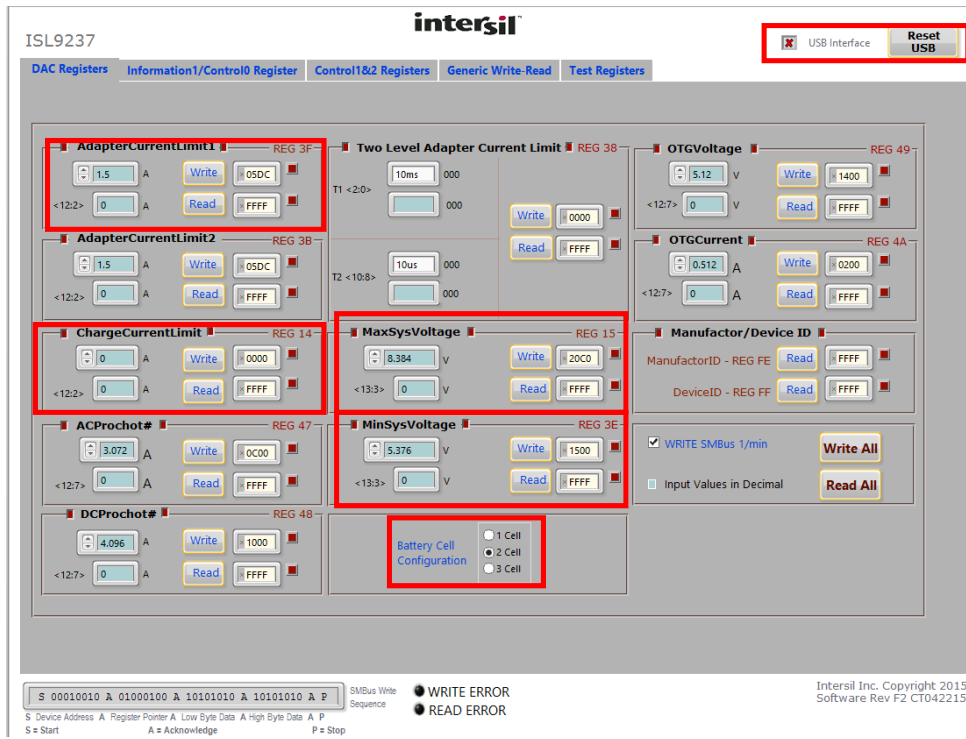

FIGURE 2. GUI SNAPSHOT
The number of battery cell and adapter current limit default values can be configured with a standard 1% 0603 resistor ( $R_{23}$ ) from the PROG pin to GND. The "PROG PIN PROGRAMMING OPTIONS" table in the ISL9237 datasheet shows the programming options. After the default number of cells in series are set, the default values for MaxSystemVoltage and MinSystemVoltage are set accordingly. These values can also be changed through the SMBus control registers, which are implemented with the Intersil GUI, shown in Figure 2 on page 3.
4. Turn on the power supply; LED 3 goes out. Then turn on the battery emulator and open Intersil ISL9237 GUI (Figure 2 on page 3). Note: The USB interface with a green tick means the GUI is ready to communicate with the evaluation board. If the USB interface shows a red cross, the GUI is not ready to communicate with the evaluation board. Click the “reset USB” button until a green tick shows in the USB interface. If not green, check the USB connection.